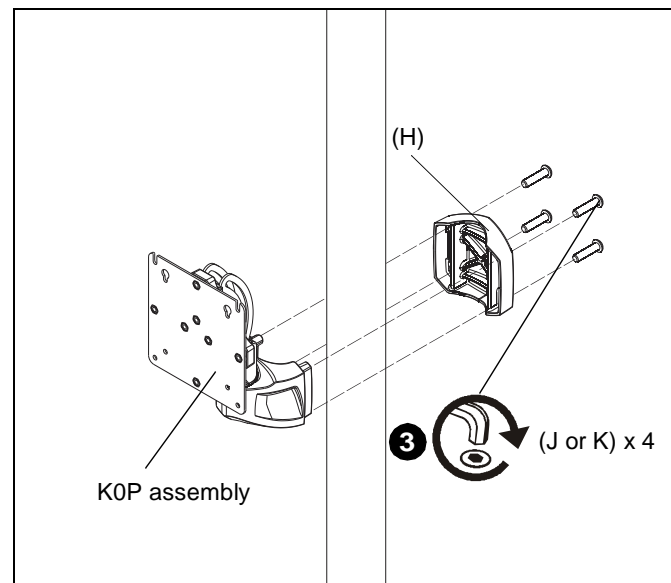

Figure 2
2. Place mount (A) against pole with clamp (H) on opposite side of pole. (See Figure 2)
3. Using 5/32" hex key (M) and appropriate length screws, loosely attach K0P assembly to pole clamp (H). If installing to 1 1/2" NPT pipe, use 1/4"-20 x 1 1/2" button head cap screws (J). If installing to 1 1/2" diameter pipe, use 1/4"-20 x 1" button head cap screws (K). (See Figure 2)